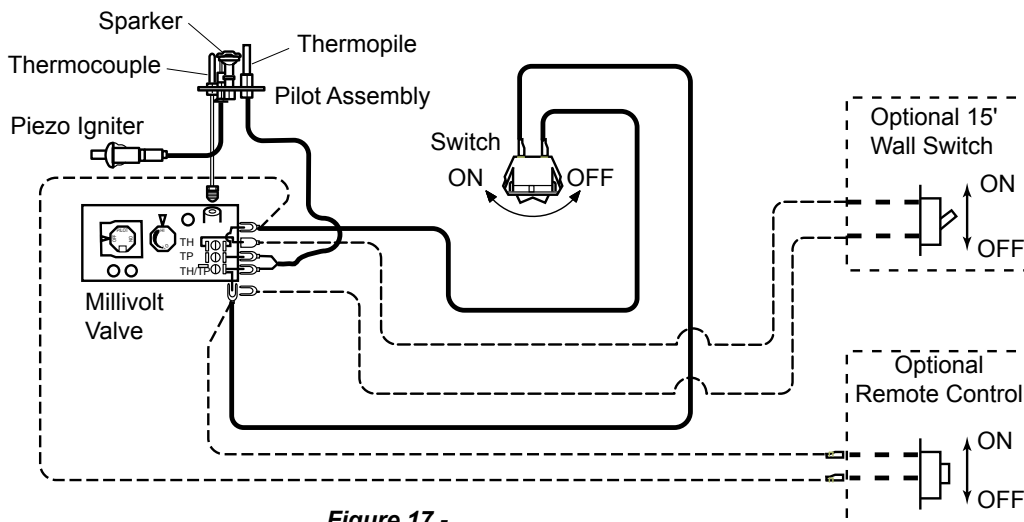

Figure 17 -
A remote wall switch and up to fifteen (15) feet of 18 Ga. wire may be used with this appliance. Attach the wall switch in a junction box at the desired location on the wall. *Figure 17* Verify proper operation after servicing.